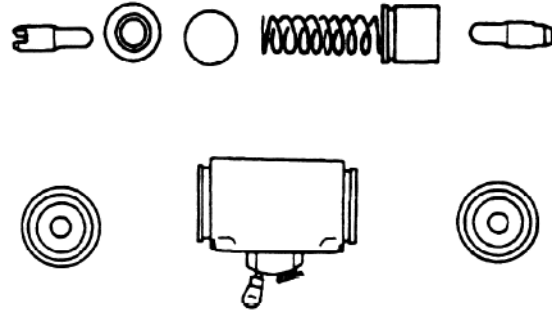

Fig. 2-17
(1) Check the operating cylinder inner surface and the piston periphery surface for rusting. Then, measure the clearance between the piston and cylinder. (See Fig.2-17)